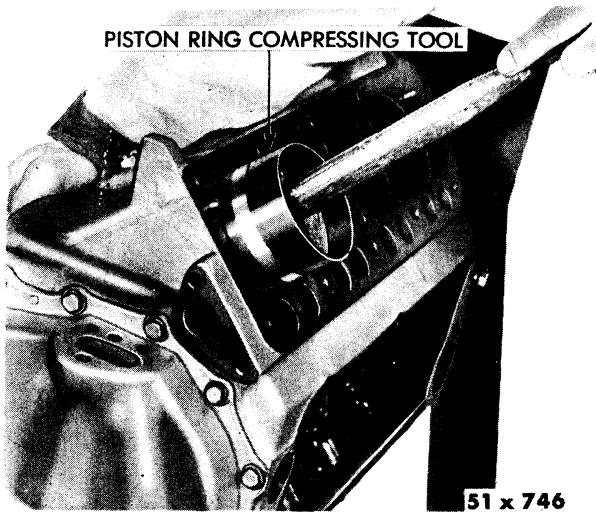

Fig. 45—Installing Connecting Rod Piston and Rings (Typical)
- (3) Tap the piston down in the cylinder bore, using the handle of a hammer, as shown in Figure 45, and at the same time, guide the connecting rod into position on the crankshaft journal. The marking on the top of the piston must be pointing toward the front of engine. As a double check; the